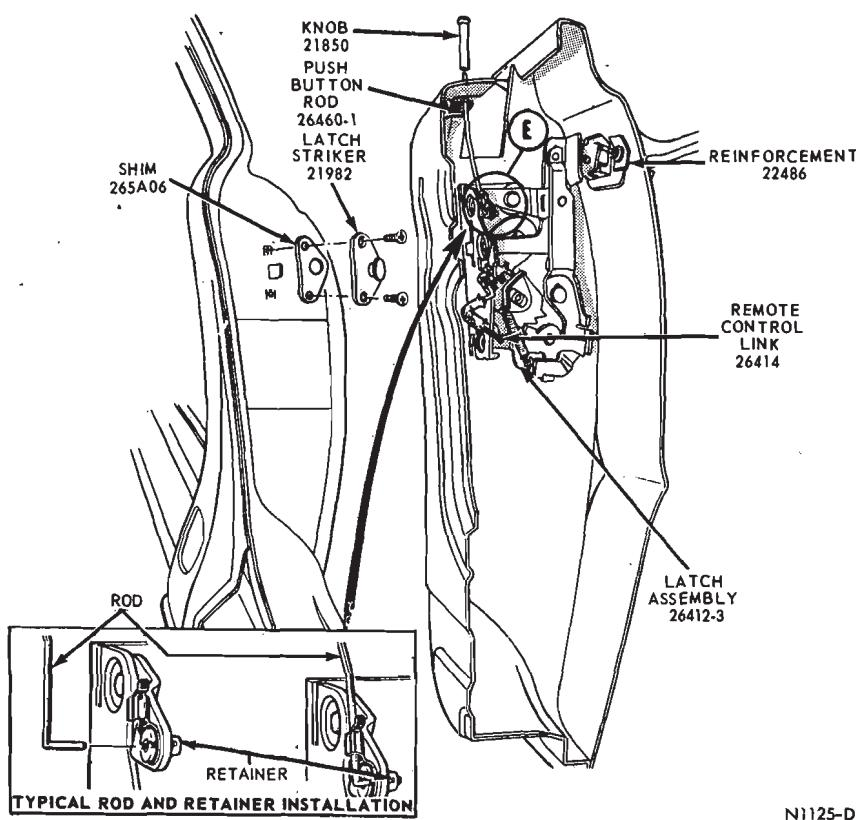

FIG. 7—Rear Door Latch—Thunderbird
2. Disconnect the remote control link from the latch assembly (Fig. 7).